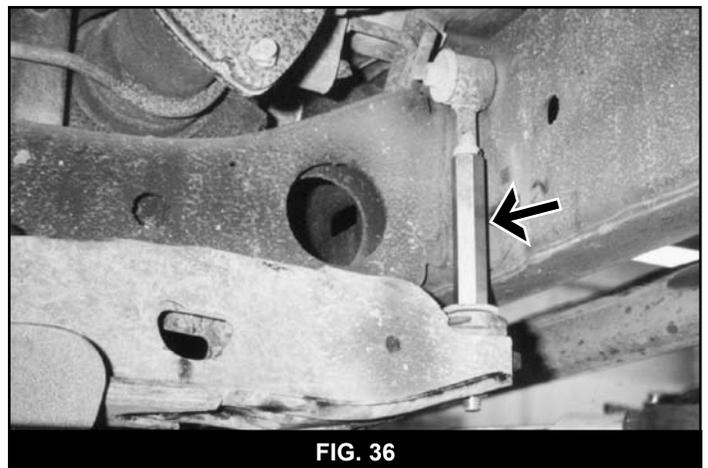

FIG. 36
76. Install the crossmember on the new links with the OE bushings, washers, and nuts. Tighten the nuts until the bushings begin to swell (Fig 36).